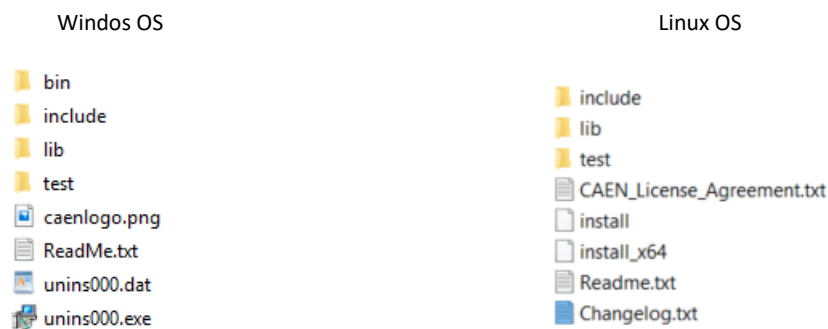

Fig. 1.3: PLULib subfolders
- The main directory includes subfolders as in **Fig. 1.3**, left side.
- The unpacked library includes subfolders as in **Fig. 1.3**, right side.